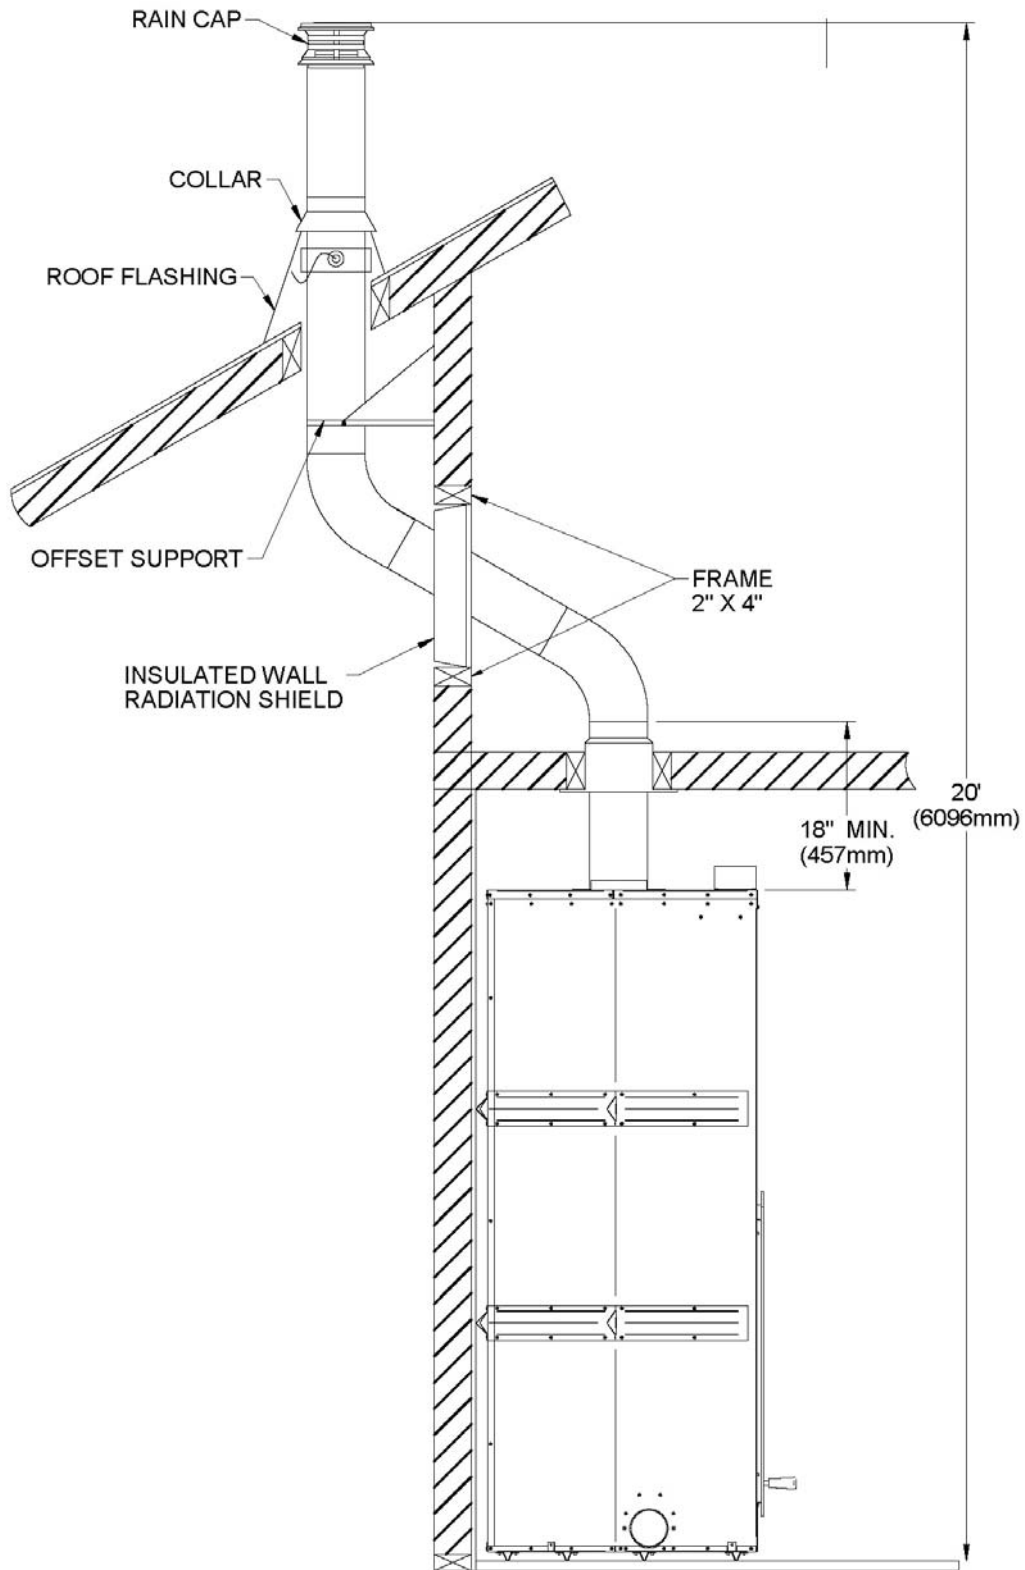

Figure 32
5. From below, install a firestop supplied by the chimney manufacturer (voir **Figure 32**).